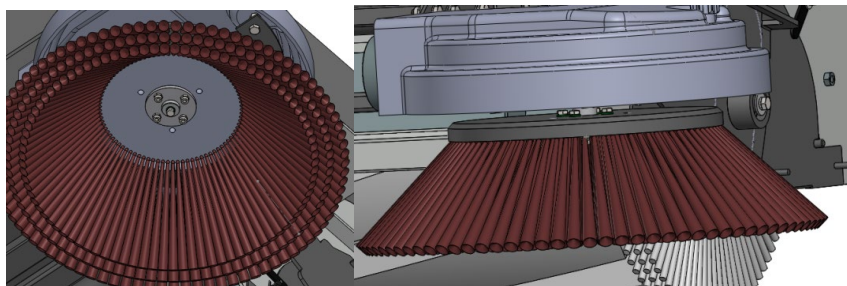

Fig. 3
4. Use a tool to remove the screw from the inside of the back side brush. Hold the side brush with both hands and remove it. After the flange of the side brush is disassembled and the replaced side brush is installed, the flange of the back side brush is poked up from the inside of the side brush and fixed as shown in the figure below. Install the side brush back to its original position (do not forget the flat key of the side brush motor) (Fig. 3).